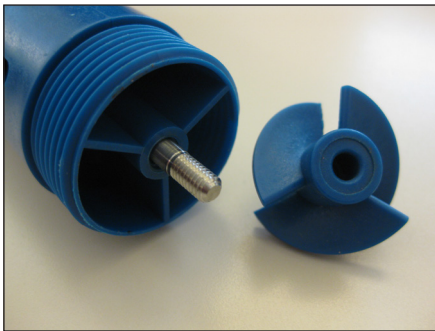
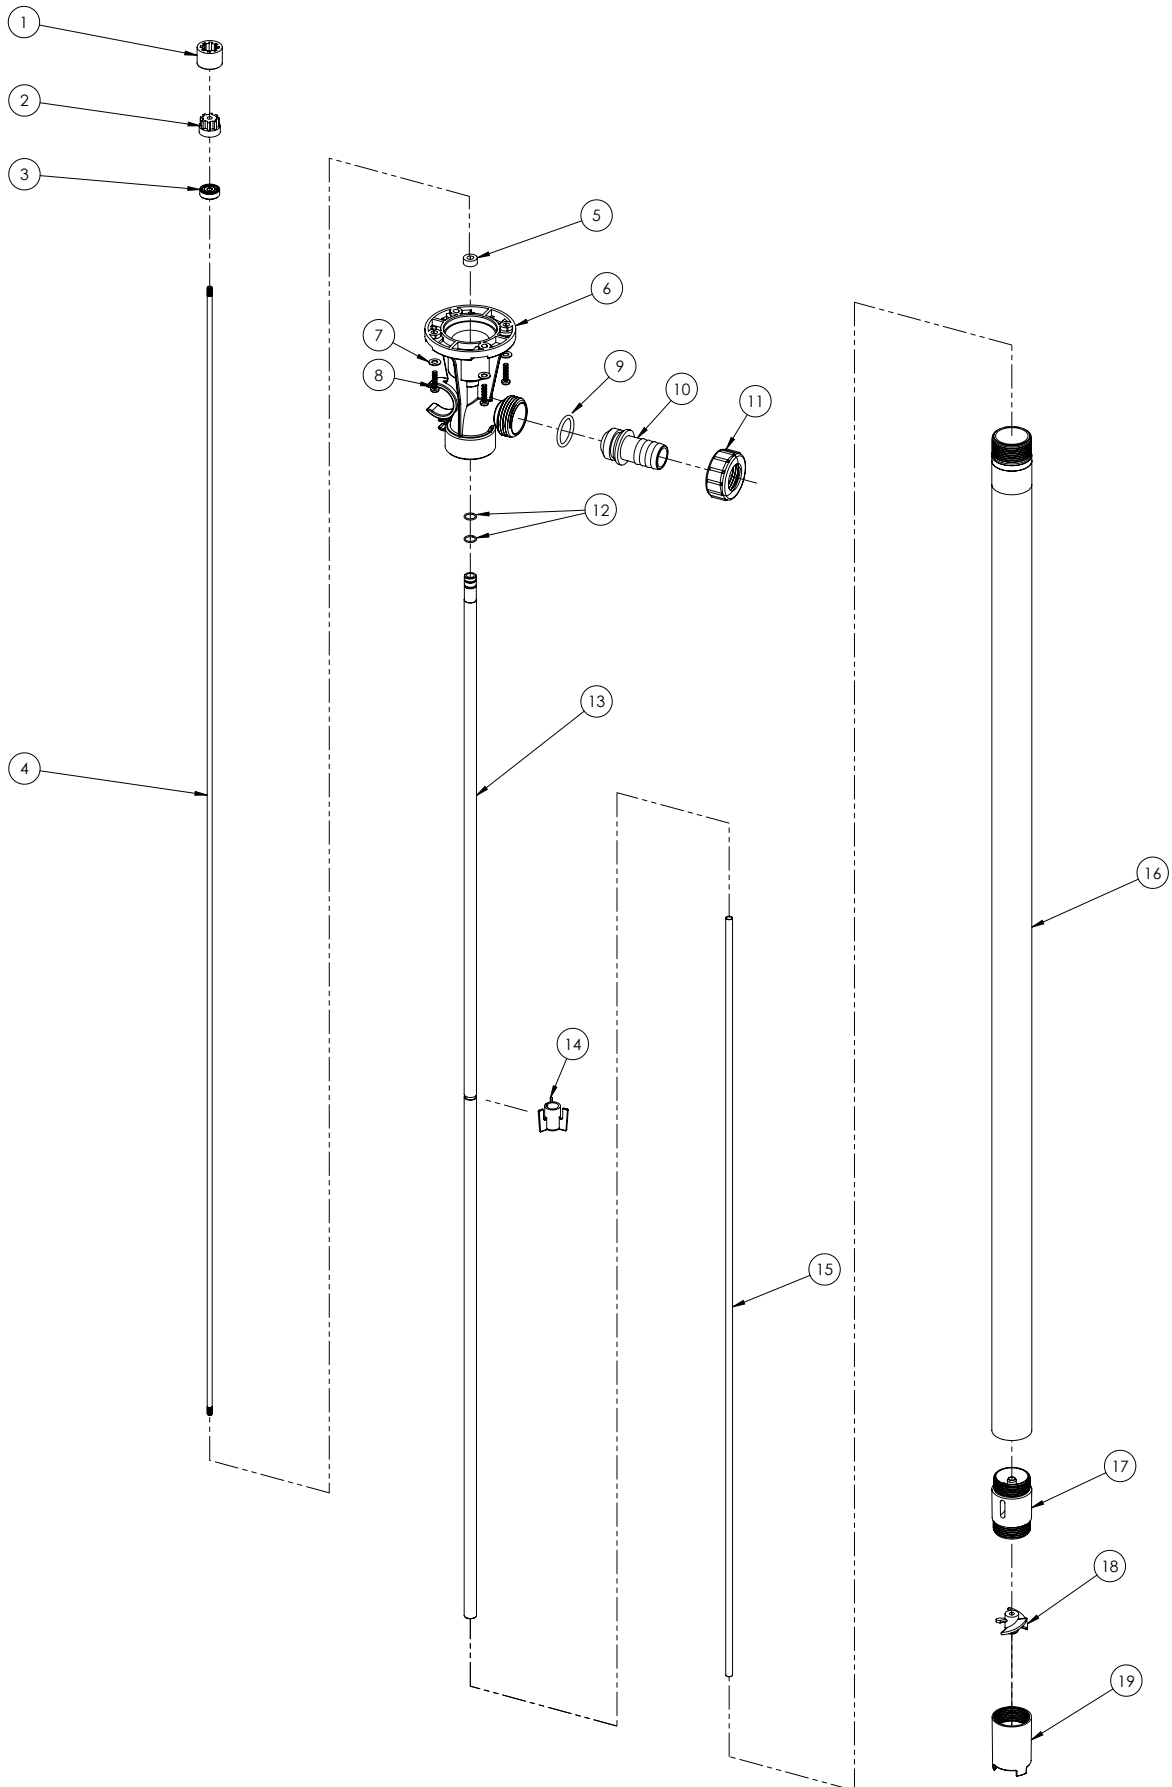

Figure 11
Figure 12
7. Thread the diffuser (item 17) completely onto the bottom of the outer tube (item 16). Hand tighten. Thread the impeller onto the shaft by hand. While holding the half coupling with the other hand, turn the impeller clockwise (right hand thread). *See figure 11.* Install the diffuser cover (item 19) onto the diffuser turning counter clockwise (left hand thread). Hand Tighten. *See Figures 12 & 13.*